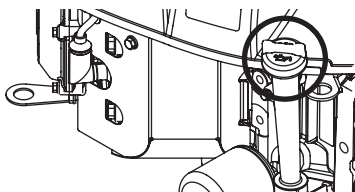

Figure 8
1. Wipe around dipstick cap and tube with a clean cloth to remove any debris (Figure 8).
NOTE: Standard air filter and cover shown in Figures 8, 9, 11, and 12. Heavy duty air filter and cover is serviced the same way.